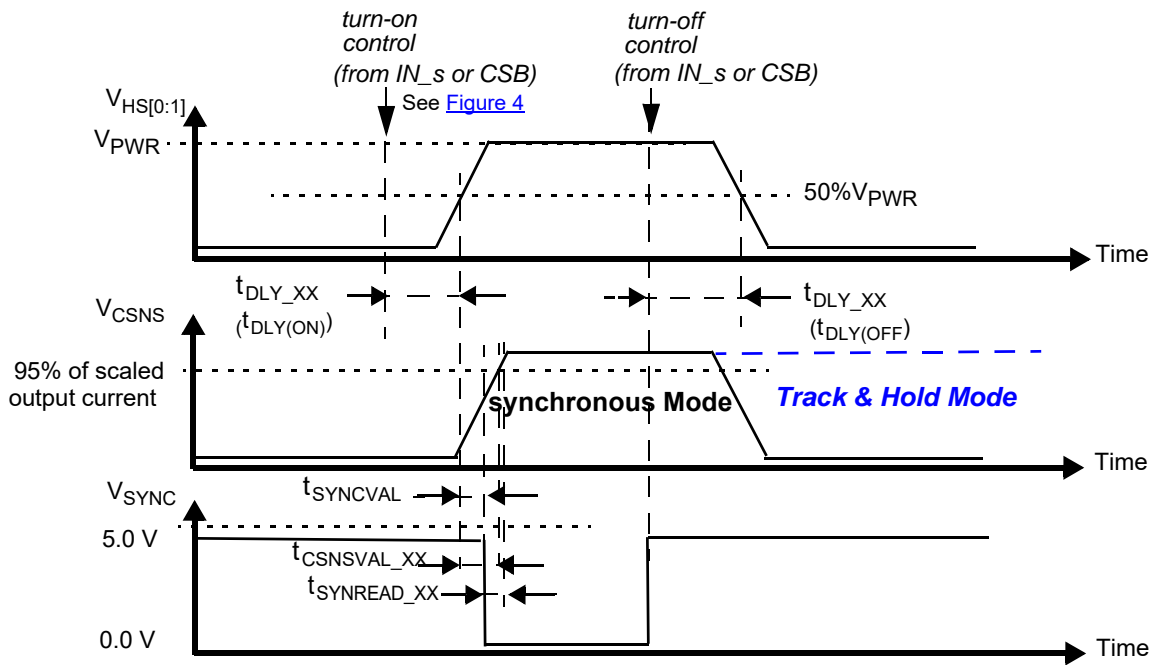

Figure 9. Synchronous and Track-and-Hold current sensing modes: associated delay and settling times
30. Time required to switch off the channel after detection of overtemperature (OT), overcurrent (OC), SC or UV error (time measured between start of the negative edge on the FSB pin and the falling edge on the output voltage until $V(\text{HS}[0:1]) = 50\%$ of V_{PWR}).
31. Settling time ($= t_{CSNSVAL_XX}$), SYNC output signal delay ($= t_{SYNCVAL_XX}$) and Read-out delay ($= t_{SYNREAD_XX}$) are defined for a stepped load current using a $10\ \Omega$ resistive load for $\text{CSNS_RATIO}_s = 0$. (see Figure 9 and Output current monitoring \(CSNS\)).
The CS pin allows independent current monitoring of channel 0 or channel 1 up to the steady state overcurrent threshold. It can also be used to sense the device temperature. The different functions are selected by setting bits CSNS1_en and CSNS0_en to the appropriate value (Table 23). When the CSNS pin is sensed during switch-off in the (optional) track & hold mode (see Figure 9), it outputs the scaled value of the load current as it was just before turn-Off. When several devices share the same pull-down resistor, the CSNS pins of devices the current of which is not monitored must be tri-stated. This is accomplished by setting CSNS0_en = 0 and CSNS1_en = 0 in the GCR register (Table 10). Settling time ($t_{CSNSVAL_XX}$) is defined as the time between the instant at the middle of the output voltage's rising edge ($HS[0:1] = 50\%$ of V_{PWR}), and the instant at which the voltage on the CSNS-pin has settled to $\pm 5.0\%$ of its final value. Anytime an overcurrent window is active, the CSNS pin is disabled (see Overcurrent detection on resistive and inductive loads). The current and temperature sensing functions are unavailable in Fail-safe mode and in Normal mode when operating without the V_{DD} supply voltage. In order to generate a voltage output, a pull-down resistor is required ($R(CSNS)=1.0\text{ k}\Omega$ typ. and $470 < R(CSNS) < 10\text{ k}$). When the current sense resistor connected to the CSNS pin is disconnected, the CSNS voltage is clamped to $V_{CL(CSNS)}$. The CSNS pin can source currents up to about 5.6 mA.
To synchronize current sensing with an external process, the SYNC signal can be connected to a digital input of an external MCU. SYNC is asserted logic low when the current sense signal is accurate and ready to be read. The current sense signal on the CSNS pin has the specified accuracy $t_{SYNREAD_XX}$ seconds after the falling edge on the SYNC pin (Figure 9) and remains valid until a rising edge is generated. The rising edge that is generated by the SYNC pin at the turn-OFF instant (internal or external) may also be used to implement synchronization with the external MCU. Parameter t_{SYNVAL_XX} is defined as the time between the instant at the middle of the output-voltage rising edge ($HS[0:1] = 50\%$ of V_{PWR}), and the instant at which the voltage on the SYNC-pin drops below 0.4 V (V_{SOL}). The SYNC pins of different devices can be connected together to save μ -controller input channels. However, in this configuration, the CSNS function of only one device should be active at a time. Otherwise, the MCU does not determine the origin of the SYNC signal. The SYNC pin is open drain and requires an external pull-up resistor to V_{DD} .